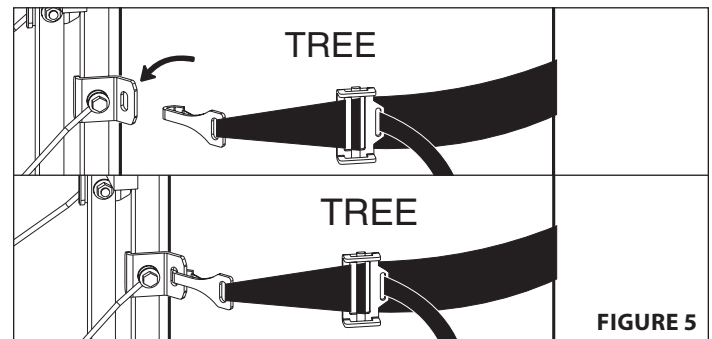

FIGURE 5
b. Take snap hook/buckle end and wrap around tree. Be sure the strap is even and at the same level all the way around the tree. Also, be sure there are no twists in the strap. Connect hook to opposite side of stand by inserting through slot provided. Be absolutely sure snap hook engages through slot of bracket and can not come off. **SEE FIGURE 5**